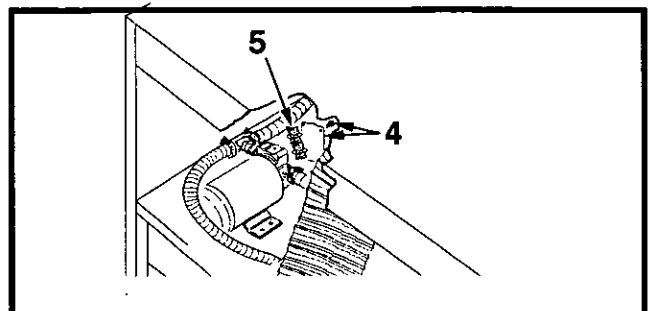

Figure 5-29 Water Pump Service
2. Remove pump end cap (4, Figure 5-29) .
3. Remove gear set (5), Figure 5-29) . If defective fit new parts during reassembly of the water system.